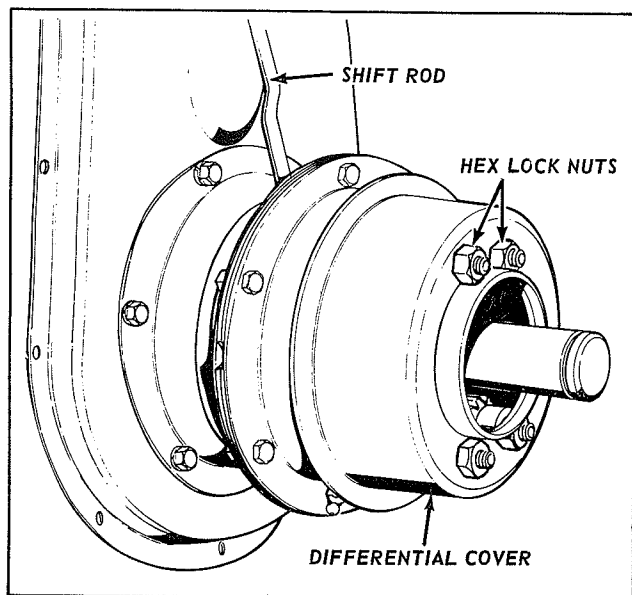

Figure 4
5. Remove the differential cover by undoing the 4 hex lock nuts shown in Figure 4. After the cover is removed, you will be able to remove the 4 sets of pinion gears with their spacers and spindles by sliding them from their positions on the differential bolts.